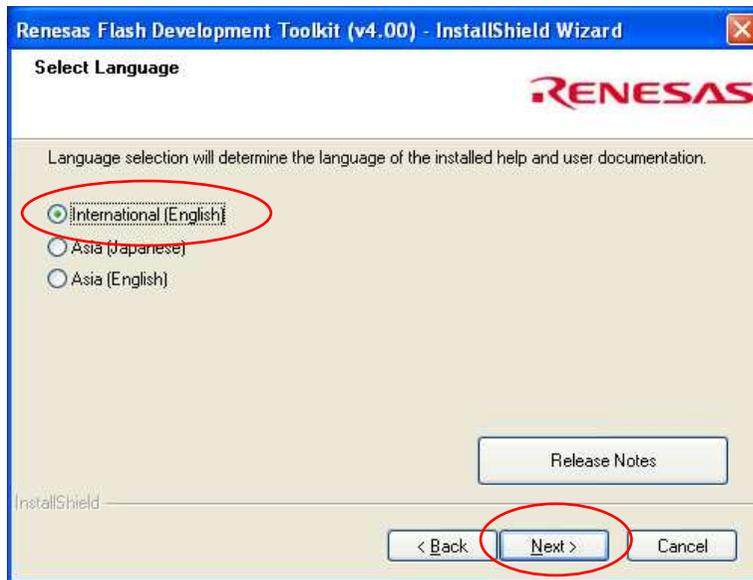

Figure 57:
5. Select your language. Then select next. (Figure 57)